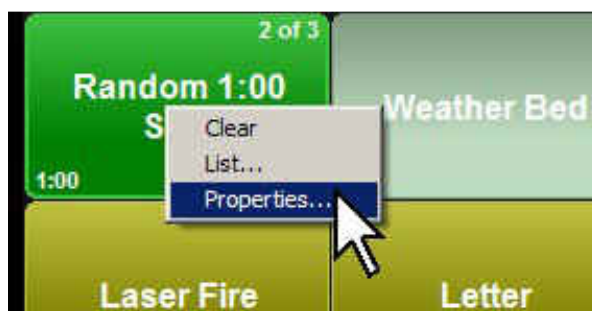

Figure 6-12. Clicking Properties from the Pop-up Window
2. From the pop-up menu, click **Properties** (see Figure 6-12).